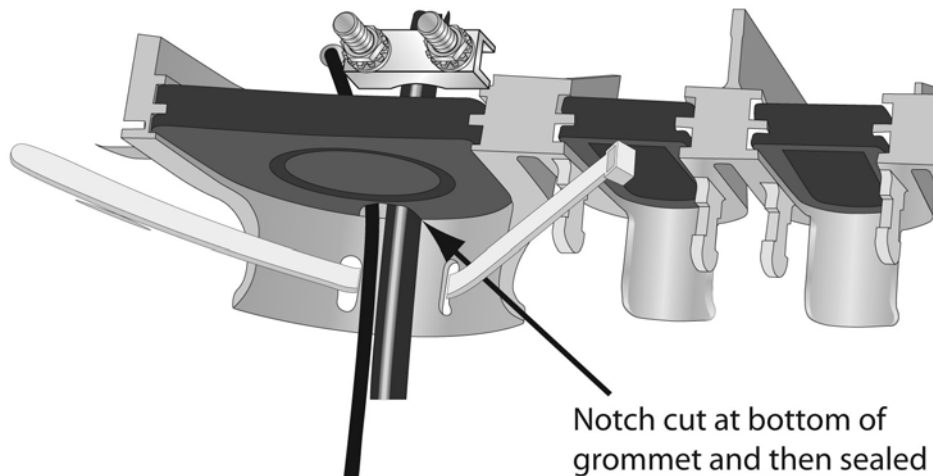

Figure 19. Sealing Grommet and Inserting Tie-Down
2. Place the grommet back (with the notch at the bottom) and **seal the grommet** with tape (not provided) and silicone sealant (not provided). Refer to Figure 19.
3. Insert a UV-rated wire tie (not provided) through the slots at the bottom of the entrance as shown in Figure 19.